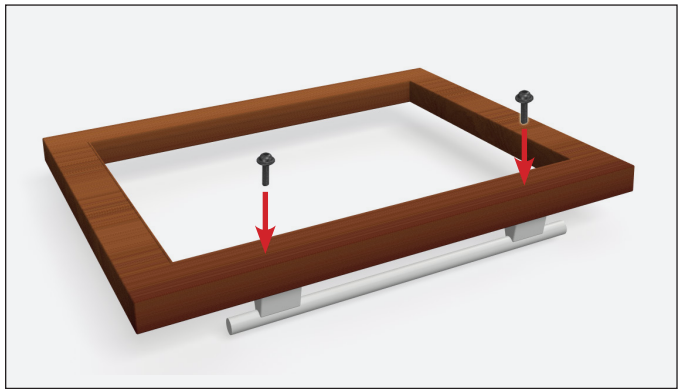

FIG. 7. Install handles before fastening the overlay panel to the door.
**IF DESIRED, INSTALL A HANDLE BEFORE PROCEEDING TO THE NEXT STEP. FOR BEST INSTALLATION, FASTEN THE HANDLE WITH RECESSED SCREWS. SEE FIGS. 7 AND 8.**
7. Carefully drill pilot holes into the panel. See fig. 7.